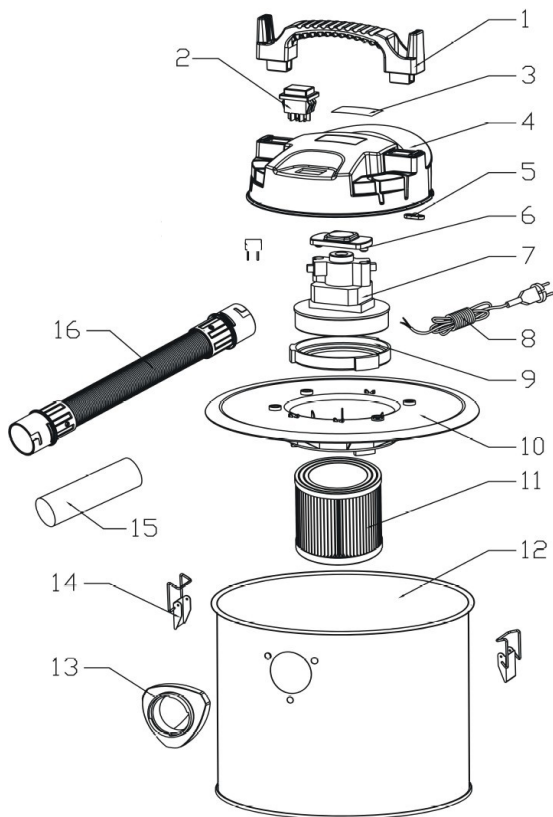

Рис. 1 / Vykres / Kreslenie / Obrazek / Рисуване / Desen / Kép / Рис. / Мал.
Before connecting the hose, install the housing lid (Fig. 1, Pos. 4) with the motor unit (Fig. 1, Pos. 7) onto the metal container (Fig. 1, Pos. 12).
2. Secure the lid using the lid clamps (Fig. 1, Pos. 5) by pressing them firmly against the housing.
1. To connect the hose to inlet A (suction) insert the metal hose (Fig. 1, Pos. 16) into the inlet port (Fig. 1, Pos. 13) and turn it counter-clockwise until it locks in place. To disconnect, turn it clockwise and remove the hose.
1. Before emptying the tank, switch off the vacuum cleaner using the power switch (Fig. 1, Pos. 2) and unplug the power cord (Fig. 1, Pos. 8) from the socket. Wait for the motor to come to a complete stop.
2. Release the lid clamps (Fig. 1, Pos. 5) securing the housing lid (Fig. 1, Pos. 4). Carefully lift the lid along with the motor unit (Fig. 1, Pos. 7) and place it on a clean, dry surface.
3. Carefully empty the collected ash and dust from the metal container (Fig. 1, Pos. 12) into an appropriate waste bin. If necessary, use a soft brush or dry cloth to clean the inner walls of the container.
4. Inspect the filter (Fig. 1, Pos. 11). If it is clogged, gently shake off the accumulated dust. If heavily soiled, replace the filter or clean it according to the instructions.
5. Place the housing lid back onto the container aligning the guides. Secure it by fastening the lid clamps (Fig. 1, Pos. 5). Ensure the lid is tightly sealed.